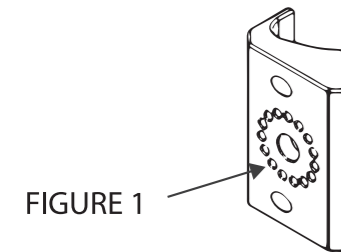
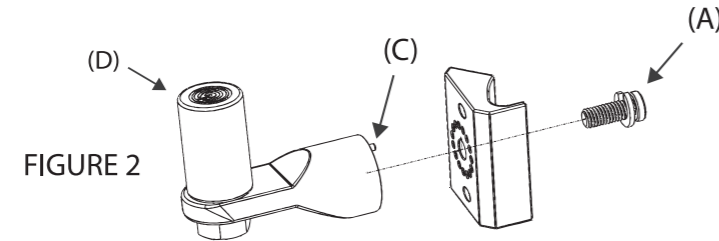
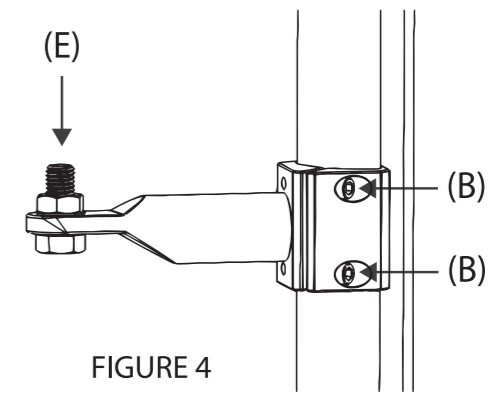

FIGURE 1
FIGURE 2
FIGURE 4
NOTICE THE MULTIPLE PIN HOLES IN ONE CAGE CLAMP (FIGURE 1). ALIGNING THE PIN (C) WITH ONE OF THESE HOLES WILL HOLD IT IN A FIXED POSITION. YOU CAN TEMPORARILY ASSEMBLE (FIGURE 2) AND HOLD THE CLAMP HALF ON YOUR ROLL CAGE TO HELP FIND A SUITABLE MOUNTING LOCATION. VERTICAL ADJUSTMENT IS ACHIEVED BY MOUNTING IT HIGHER OR LOWER ON THE ROLL CAGE AND MOUNT ARM ROTATION IS ACHIEVED BY USING DIFFERENT PIN HOLE POSITIONS. FIND A SUITABLE POSITION FOR YOUR DATA COLLECTOR AND MARK THE POSITION ON THE CAGE. REMOVE FROM THE CAGE AND THEN TIGHTEN & TORQUE BOLT (A) TO (21FT-LBS).
**NOTE:** YOUR DATA COLLECTOR POLE CLAMP WILL MOUNT AROUND POST (D). YOU CAN ALSO ADJUST THIS POSITION BY ROTATING THE CLAMP AROUND THIS POST.
USING THE MULTIPLE PIN HOLE CAGE CLAMP (FIGURE 1), ALIGNING THE PIN (C) WITH THE HOLE THAT WILL BEST ALIGN THE GPS MOUNTING STUD (E) IN AS VERTICAL POSITION AS POSSIBLE TO THE GROUND (FIGURE 4). YOU CAN TEMPORARILY ASSEMBLE AND HOLD THE CLAMP HALF ON YOUR ROLL CAGE TO HELP FIND A SUITABLE MOUNTING LOCATION (FIGURE 4). VERTICAL ADJUSTMENT IS ACHIEVED BY MOUNTING HIGHER OR LOWER ON THE ROLL CAGE AND MOUNT ARM ROTATION IS ACHIEVED BY USING DIFFERENT PIN HOLE POSITIONS. FIND A SUITABLE POSITION FOR YOUR GPS AND MARK THE POSITION ON THE CAGE. REMOVE FROM THE CAGE AND THEN TIGHTEN & TORQUE BOLT (A) TO (21FT-LBS).